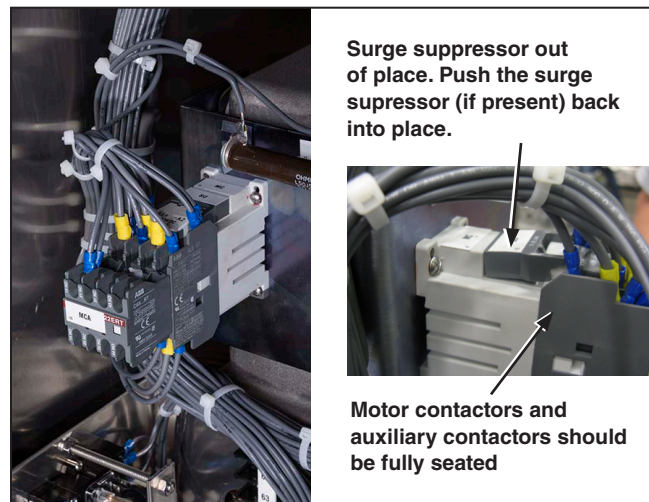

Figure 31. Checking the motor contactor and the surge suppressor behind the operator side panel.
- To check the motor contactor and surge suppressor to ensure all electrical connections are secure and the surge suppressor is fully seated in its mount (see Figure 31 on page 26)